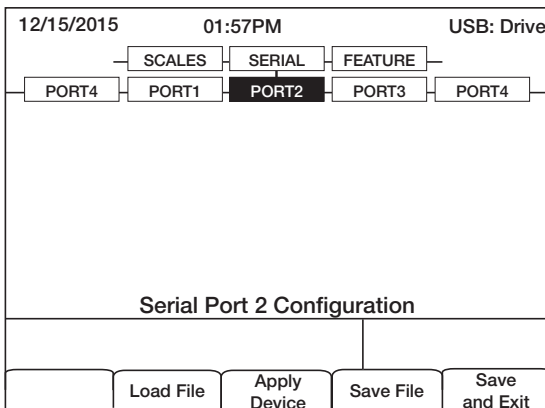

Figure 3-2. Port 2 Screen
5. Place the indicator in setup mode and navigate to the SERIAL » PORT2 menu shown in Figure 3-2 on page 19.